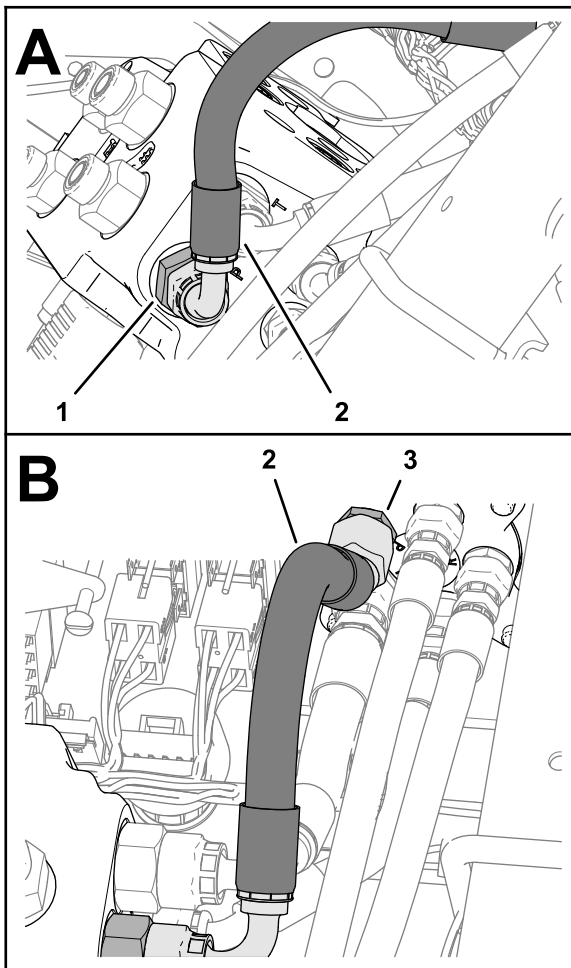

Figure 72
11. Assemble the 90° fitting of the hose 10 x 264 mm (3/8 x 10-3/8 inches) onto the port P fitting of the EHI steering valve (Figure 72).
12. Assemble the 45° fitting of the hose 10 x 264 mm (3/8 x 10-3/8 inches) onto the port P fitting of the steering valve, and tighten both hose fittings (Figure 72).